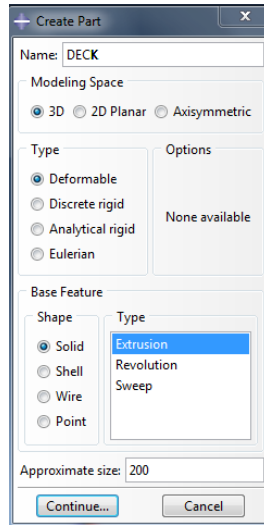

**Figure 6.** Abaqus/CAE Viewport
- Once the **Start Session** box is exited, the Abaqus/CAE Viewport should look similar to Figure 6. (Please note the **model tree** is the series of functions listed on the left hand side of the viewport, while the **module** is the list of icons to the right of the model tree)